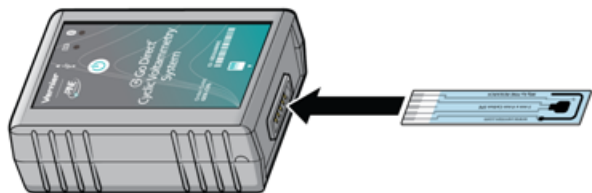

Figure 1
1. Insert a screen-printed electrode (SPE) into the SPE connector on the Cyclic Voltammetry System (see Figure 1). Avoid touching the black electrode part of the SPE.